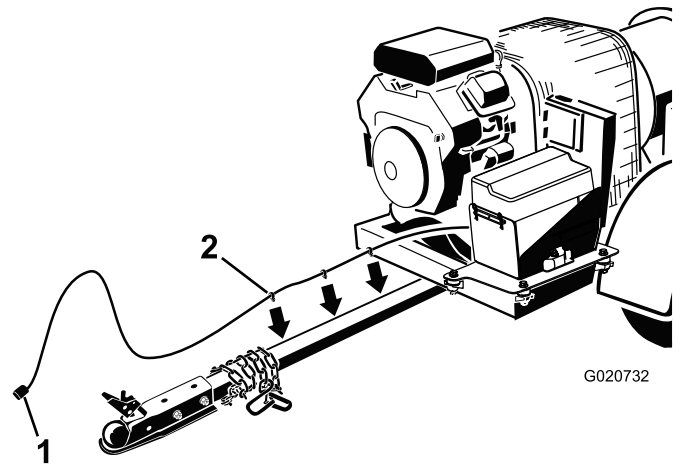

Figure 7
3. Route the wire harness along the right side of the hitch tube (Figure 7).
4. Plug the harness clips into the holes in the side of the hitch tube to secure it (Figure 7).